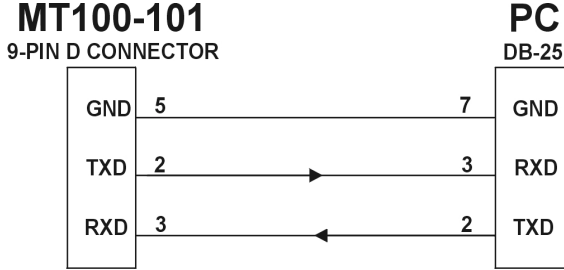

Figure 1: DB-9 Serial Connection
*Note: Make sure that the transmit pin of the control unit is connected to the receive pin of the **MT100-101**. Also, make sure that the receive pin of the control unit is connected to the transmit pin of the **MT100-101**. See figure 1 and 2.*